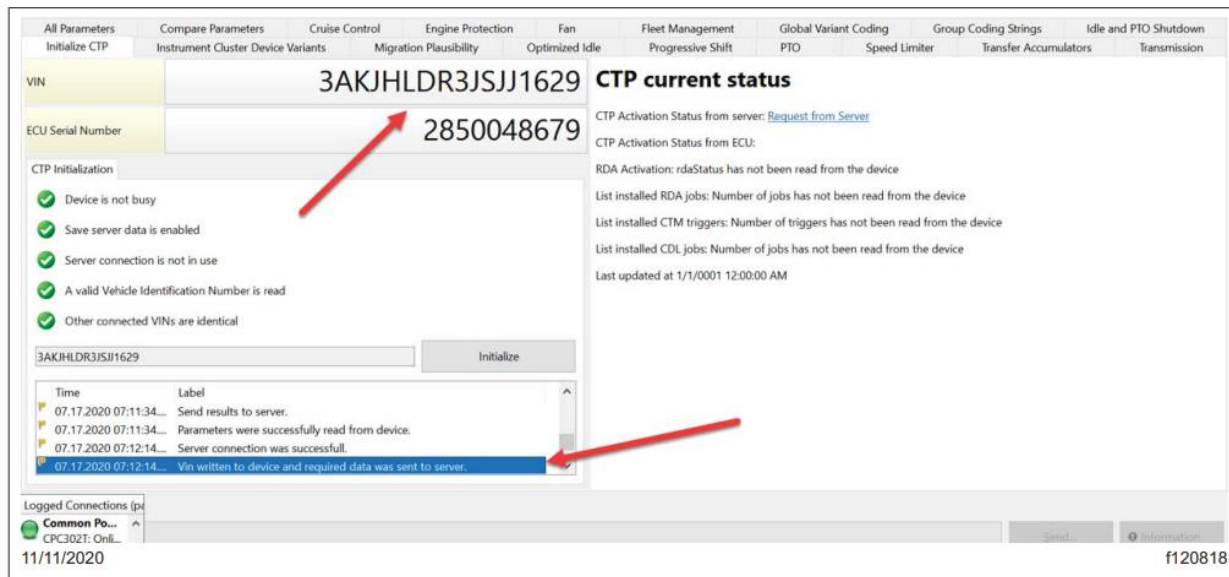

Fig. 17, 'VIN Written to Device and the Required Data was Sent to the Server' Message
29. Wait until the initialization procedure finishes, and the last line in the Initialize progress text field reads: 'VIN written to device and the required data was sent to the server.' See Fig. 17.
30. Within no more than 10 minutes from the end of the initialization procedure, does the CTP show the 'VIN written to device and the required data was sent to the server' message? See Fig. 17.
YES → Take a screenshot of the DiagnosticLink window. Make sure the VIN and the last line in the dialog box 'VIN written to device and the required data was sent to the server' are visible in the capture, as shown in Fig. 17. Go to step 31.